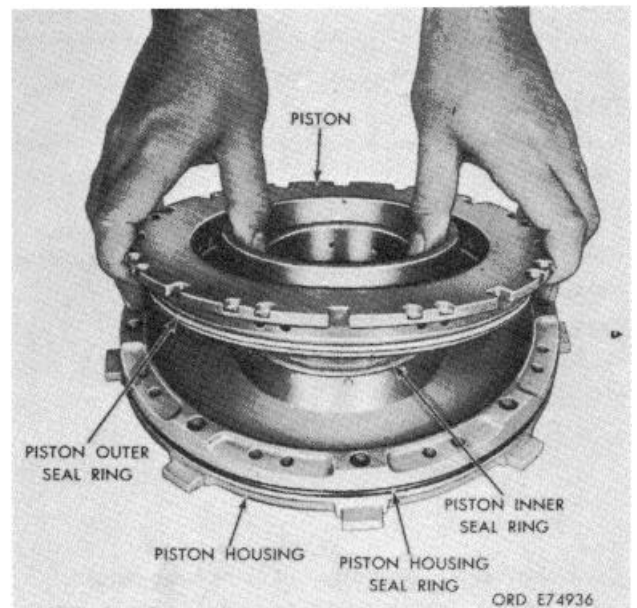

Figure 7-37. Removing output clutch piston from piston housing.
c. Remove the piston, with its outer sealring, from the piston housing (fig. 7-37).
- e. Remove the piston housing sealring (fig. 7-37).
- f. Remove the piston inner sealring from the piston housing (fig. 7-37).